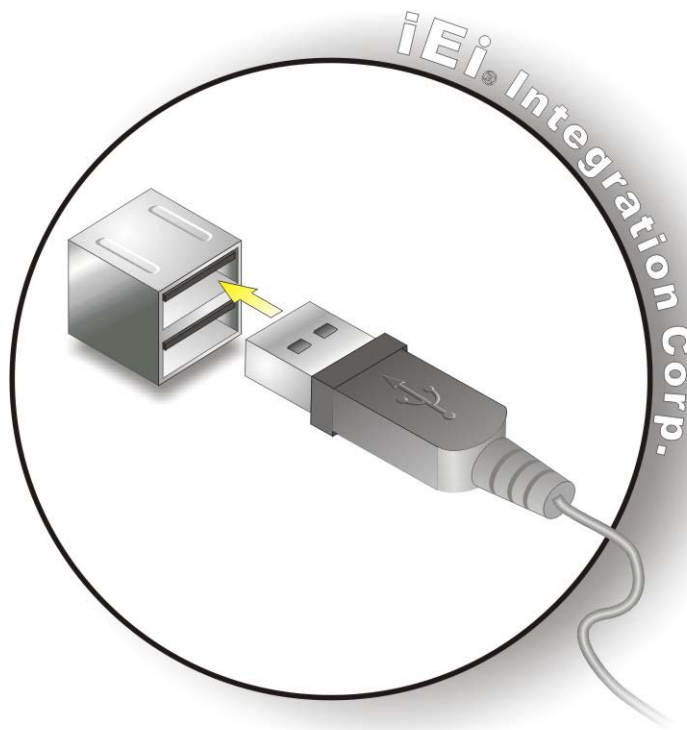

Figure 4-11: USB Connector
Step 2: **Insert a USB Series "A" plug.** Insert the USB Series "A" plug of a device into the USB Series "A" receptacle on the external peripheral interface. See **Figure 4-11**.